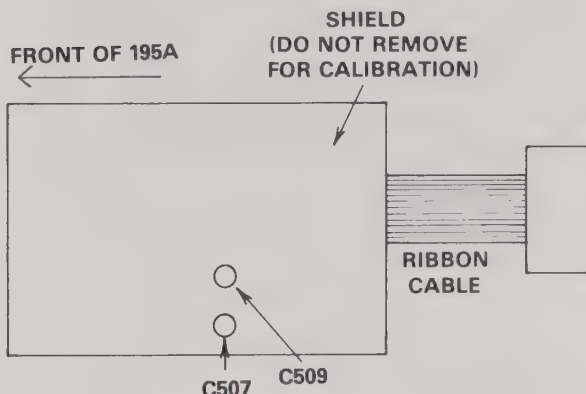

Figure 7-5. Location of Frequency Compensating Capacitors on Model 1950
- Switch the calibrator frequency to 20kHz. Adjust C507 on the Model 1950 (see Figure 7-5) so that the display reads 0.0000 ± 2 counts.